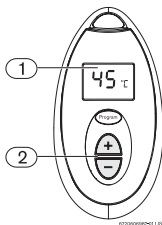

Fig. 8 Temperature adjustment
- Press the buttons  or  on the remote control (Fig. 8, pos. 2) until the required temperature (in degrees centigrade) appears on the remote control display (Fig. 8, pos. 1).